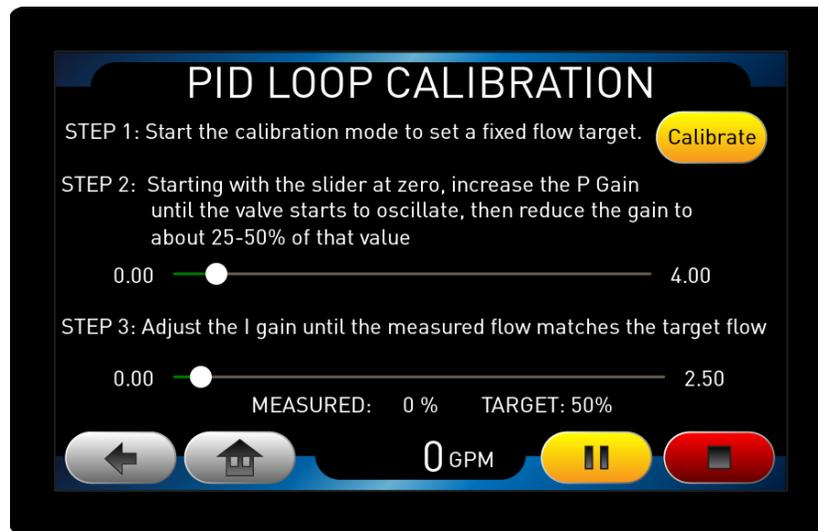

Figure 55. PID Loop Calibration page
10. Press the button labeled “PID Cal” to access the PID Loop Calibration page. (Figure 55).